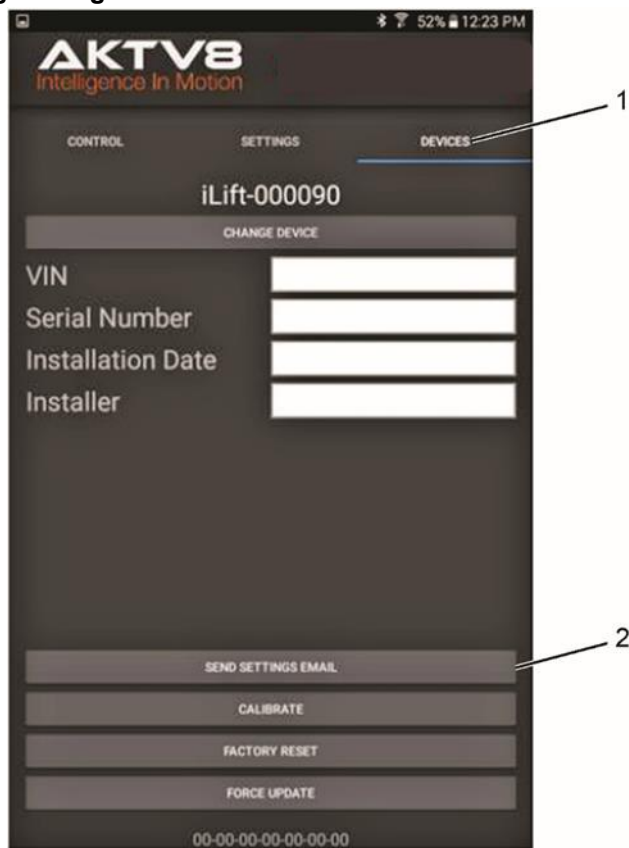

Figure 19
1. Touch or swipe to **DEVICES** tab (Figure 19, Item 1).
2. Touch **SEND SETTINGS EMAIL** (Figure 19, Item 2).